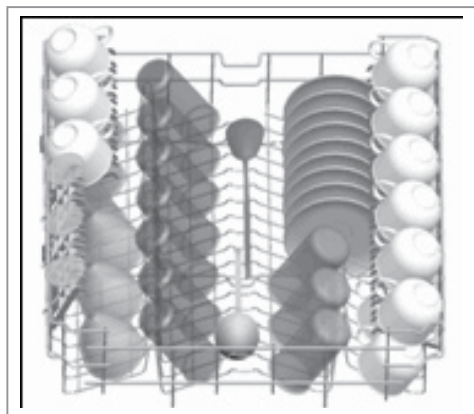

Fig. 7
1. Take hold of the basket handles, as shown in fig. 7.